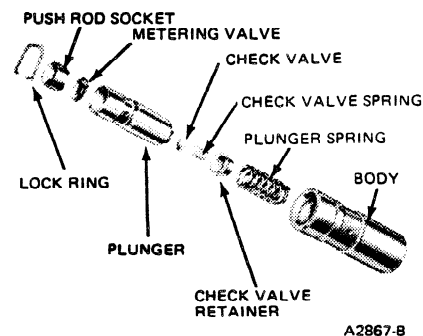

FIG. 64 Hydraulic Valve Lifter Assembly
- Hydraulic valve lifter assembly is shown in Figure 64.